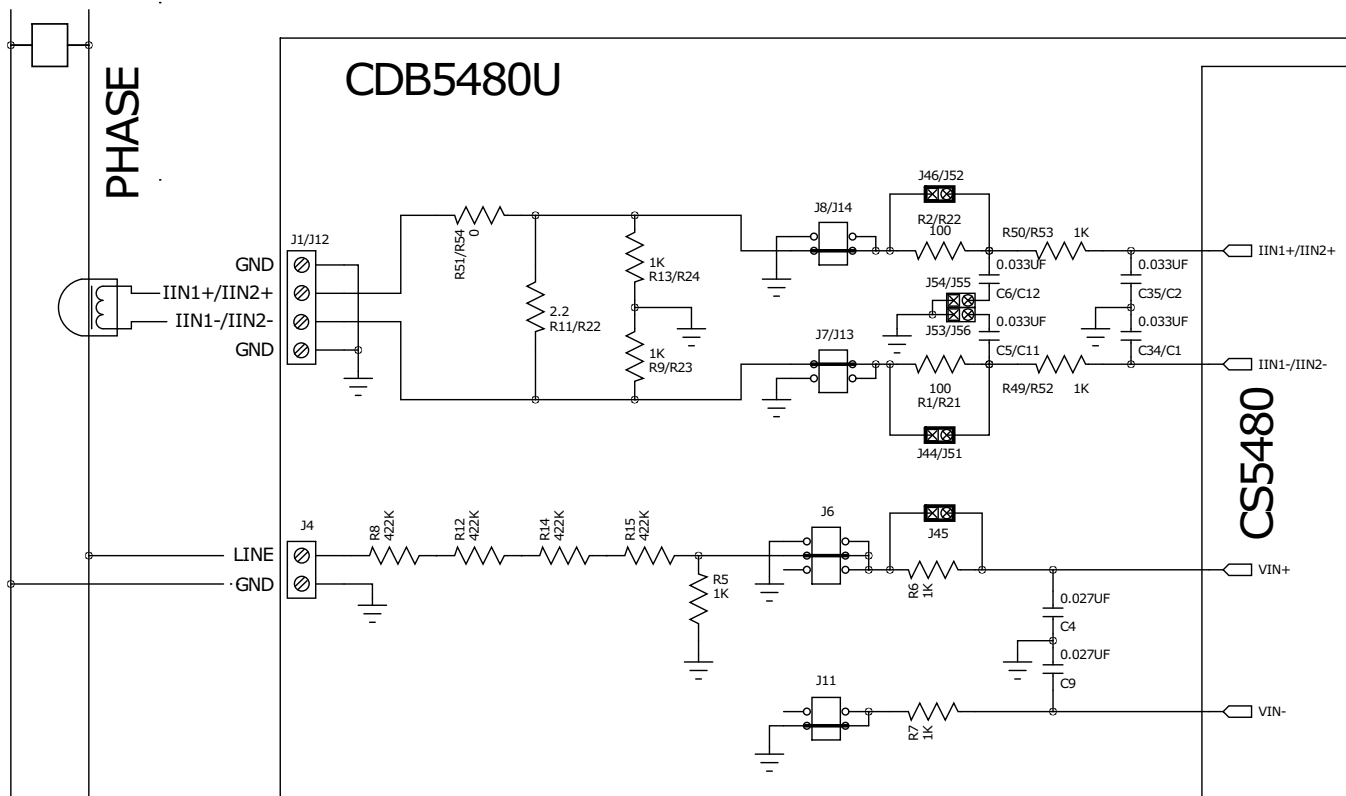

Figure 7. Current Transformer Power Meter
A slightly more expensive option is to use a current transformer (CT) to connect the AC mains to the CDB5480U evaluation board. Figure 7 depicts the voltage and current connections for a CT sensor and its associated filter configurations.